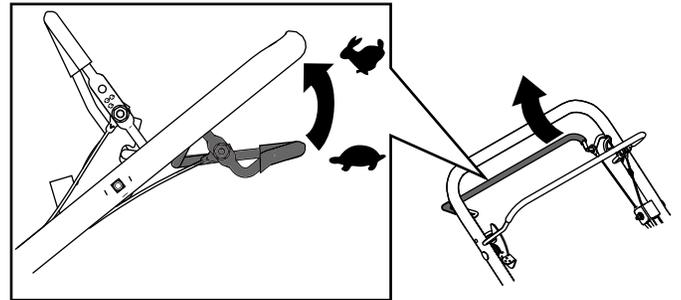

Figure 17
3. To operate the self-propel drive, squeeze the self-propel-drive bar (Figure 17).